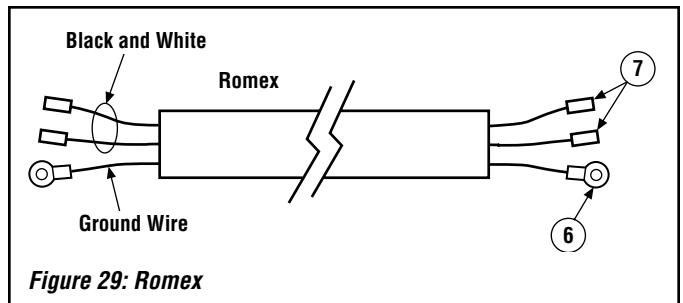

Figure 29: Romex
- Refer to Figure 29 on Page 23 and install the electrical hardware on the ends of the Romex wiring. Male terminals on the Black and White wires, and ring terminals on the ground wire.